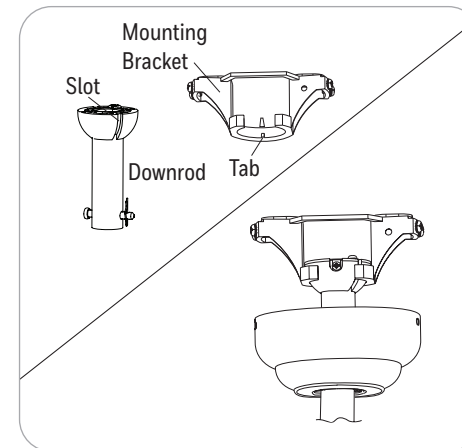

Figure 3.5
5. Lift the downrod into the mounting bracket. Rotate the downrod until the tab in the mounting bracket is seated in the slot in the downrod ball. **WARNING:** The fan and/or downrod should not rotate in the mounting bracket, if installed correctly. Failure to align the slot in the downrod ball with the tab on the mounting bracket may result in fan falling causing serious injury or death. (Figure 3.5).